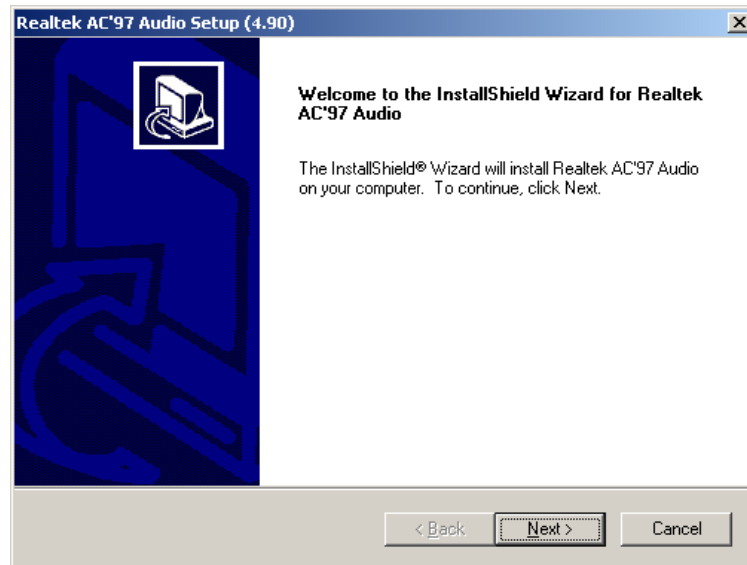

Figure 7-26: InstallShield Wizard Welcome Screen
Step 6: Once initialized, the **InstallShield Wizard** welcome screen appears (**Figure 7-26**).